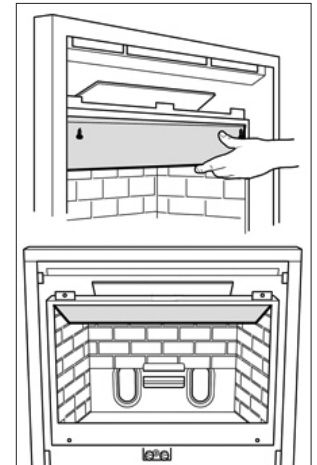

Figure 34 Port cover
3. Remove two screws from under the top front of the firebox. Using these screws fit the port cover. See figure 34.